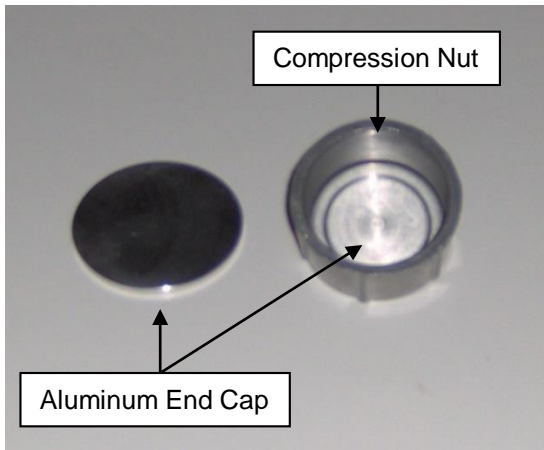

Figure 8
10.1 Use Aluminum End Caps (DE5KCAP, DE6KCAP, and DE7KCAP) to seal an empty / unoccupied Liquid-Tight Kellems Grip. End Caps are round metal discs with a diameter that corresponds to the interior size of the Grip's compression nut. **See Fig. 8.**